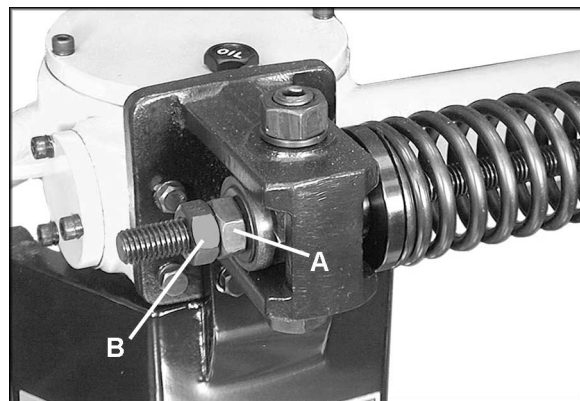

Figure 12
The distance of the serrated rollers to the band saw blade can be fine-adjusted with the hex nuts (Figure 12).
1. Loosen outer hex nut (B, Figure 12).
2. Pull back on the Stock Feeder arm, and turn the inner hex nut (A, Figure 12) as needed.
3. Lock the setting by tightening the outer hex nut (B, Figure 12) up against the inner hex nut (A, Figure 12).